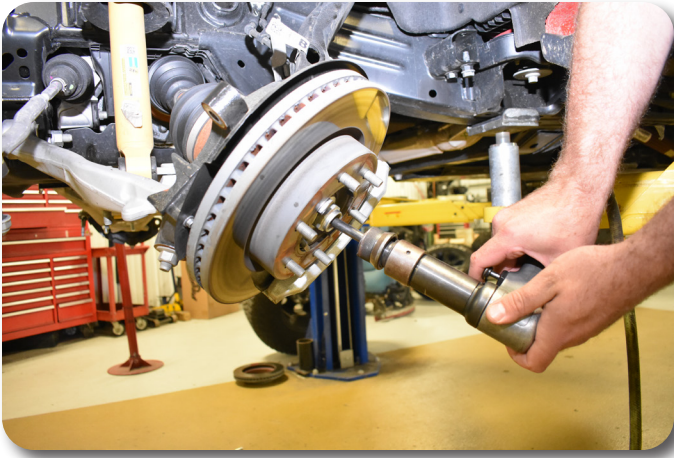

Figure 7
11. Use an air hammer to dislodge the CV shaft from the hub. Be careful not to hit the threads on the CV shaft **Figure 7**.